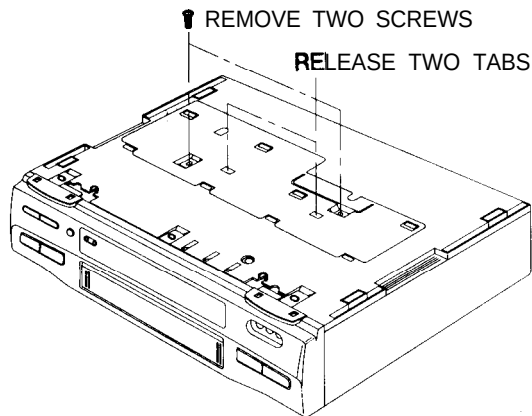
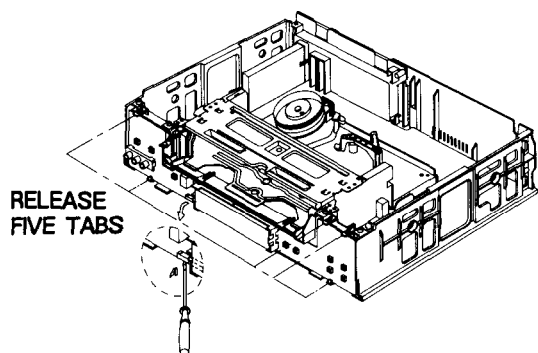

Fig. 1 Bottom Cover Removal
Fig. 4 Function PCB Removal
- 1. Remove bottom cover and top cabinet (See Fig. 1 to 2).
- 2. Release three (3) tabs from the bottom of the front panel.
- 3. Release four (4) tabs from the top of the front panel.
1. Follow the procedures for removing the bottom cover, the top cabinet and the panel front. (See Fig.1 to 3)
2. Release five (5) tabs on the function board.
3. Release connector(CN701) gently with using the Driver as shown Fig. 4
1. Follow the procedures for removing the bottom cover, top cabinet and the front panel ass'y (See Fig.1 to 3)
2. Remove four (4) screws from the bottom and top of the deck ass'y.
3. Remove two (2) screws from the bottom of the frame.
1. Follow the procedures for removing Fig. 1 to 6
2. Release three (3) tabs from the frame.
4. Release connector (CN701) gently with using the Driver as shown Fig. 4
5. Remove screws (④, ⑤, ⑥, ⑦, ⑧) holding the deck and follow the procedures on next page.